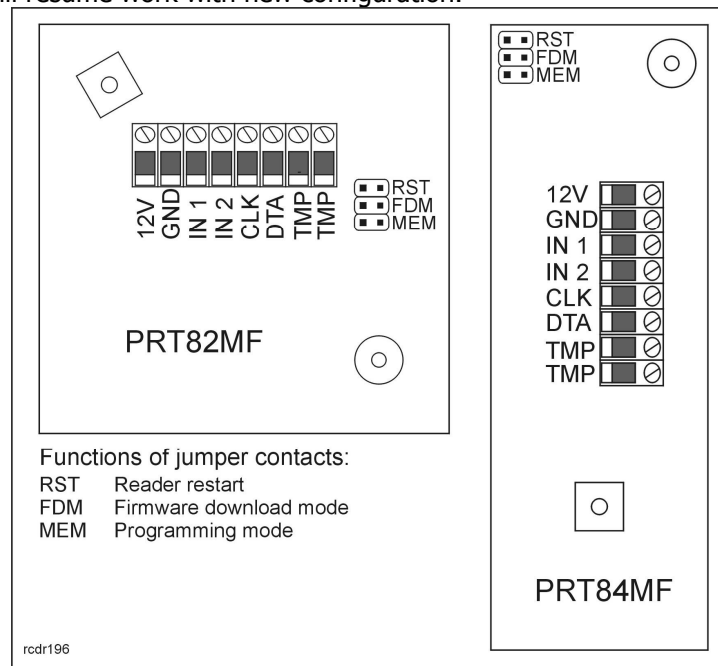

Fig. 6 Connection terminals and programming jumpers
- Connection wires should go along the hole in base of reader and plug to terminals according to Fig. 6
2. Put jumper on FDM contacts (location of contacts is given on Fig. 6)